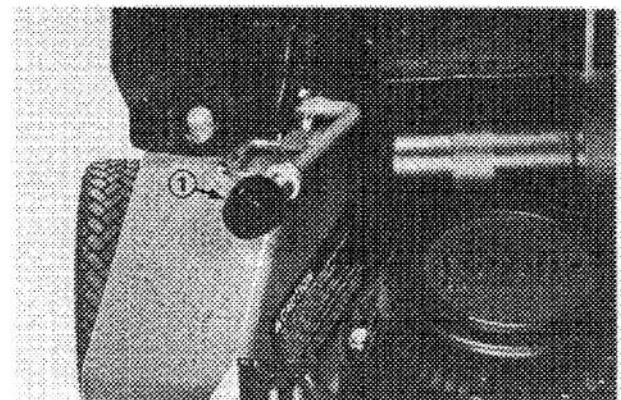

Figure 18
2. Squeeze lockout lever, move chute door handle fully forward, and release lever into housing latch (Fig. 18). The chute door in mower housing is now closed, and mower is ready for mowing operation. Leave bag on mower.